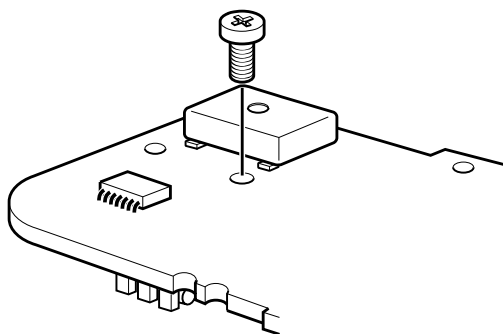

Figure 4: vibrator/buzzer screw removal
4. (Figure 4) Remove the vibrator/buzzer retaining screw from the RF PCB.